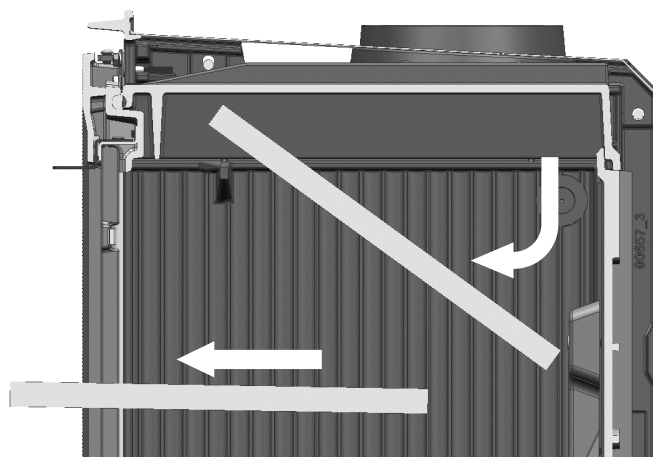

Fig. 2
2. Move the deflector downwards, leaving the piece free (Fig.2).